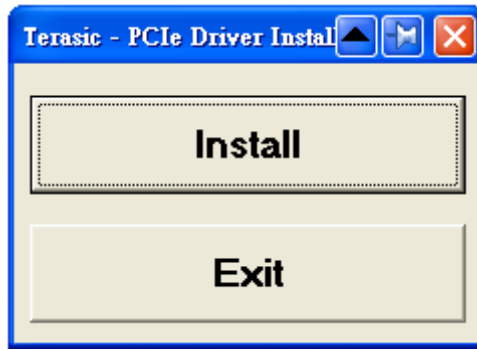

Figure 6-9 PCIe Driver Installation Program
2. Double click the “PCIe_DriverInstall.exe” executable file to launch the installation program shown in Figure 6-9.